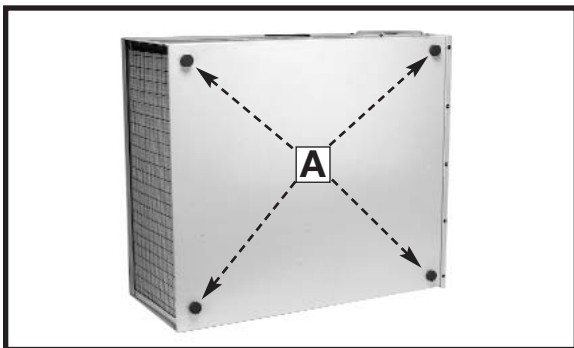

Fig. 3
Locate (4) self-adhesive rubber feet (A) Fig. 3 supplied with the unit. Carefully place the Air Cleaner on a firm supporting surface with access to the bottom of the cabinet. Apply a self-adhesive rubber foot (A) Fig. 3 to the bottom at each corner of the air cleaner cabinet. The rubber feet will help eliminate vibration and will prevent the possibility of the air cleaner “walking” across the floor or work surface.